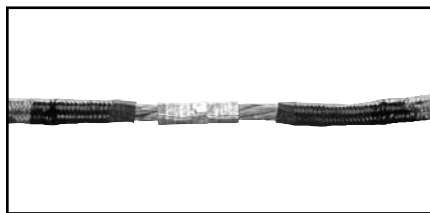

Figure 7
6. Reconnect the conductors, being careful not to damage the individual wires. (Figure 7)